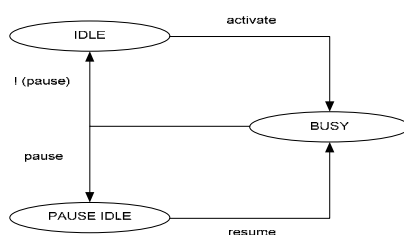

Figure 147: The operation flow with or without PAUSE mode.
7. Un-limited length of transmission. This is achieved by the operation of the PAUSE mode. In PAUSE mode, the CS_N signal keeps active (low) after the transmission. At this time, the SPI controller is in PAUSE_IDLE state, ready to receive the resume command. The state transition is shown in Figure 147.